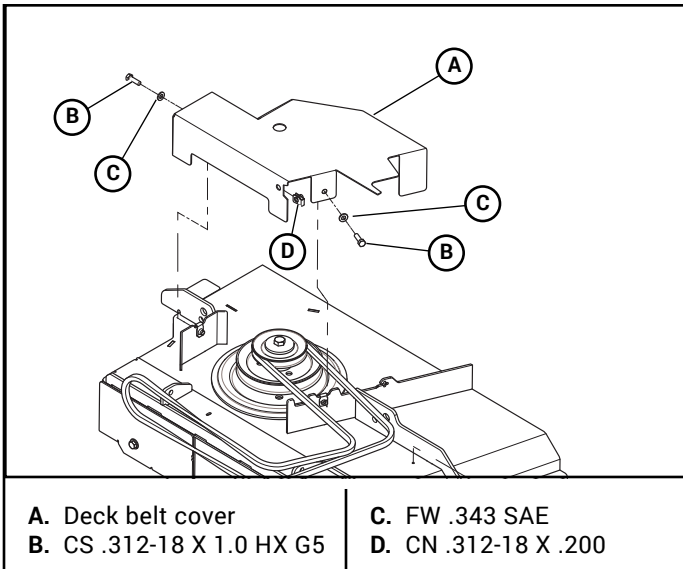
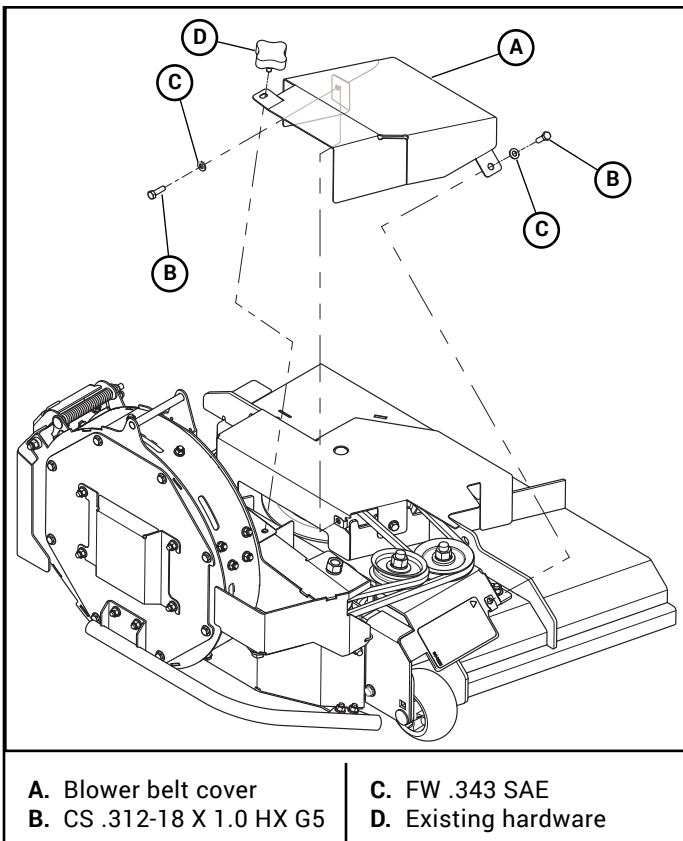

Figure 3-20
Figure 3-21
16. Attach the clip nuts to the deck belt cover. Figure 3-20
17. Attach the deck belt cover and the blower belt cover. Figure 3-20 & Figure 3-21